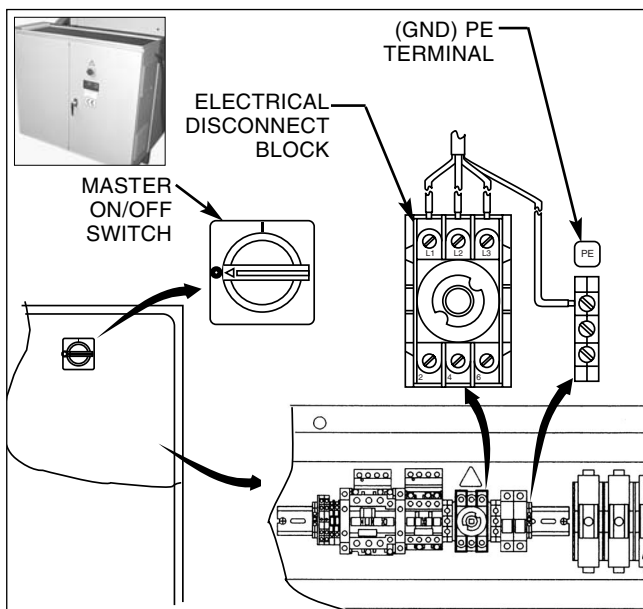

FIGURE 1-7, Electrical Connection
2. Turn Master ON/OFF Switch to OFF position and open doors (*see Figure 1-7*).